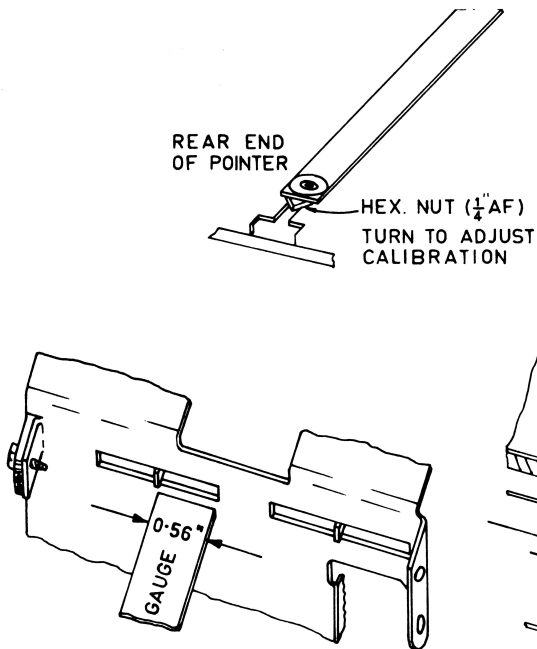

FIGURE 3
- d) Normally omitted. (See note below). With a gauge 0.56" (9/16") wide inserted in front of the rear carriage slot (on push-button units) or between the moving frame and the front stop (on manual units), peak all cores to exactly 1 Mc/s. See Figures 3 and 4.
Calibration is completed by adjusting the pointer. On manual units, slide the pointer along the cord. On push-button units, a special thin spanner ($\frac{1}{4}$ " AF) is required to adjust the small eccentrically-mounted nut below the rear end of the pointer. See Figure 3.